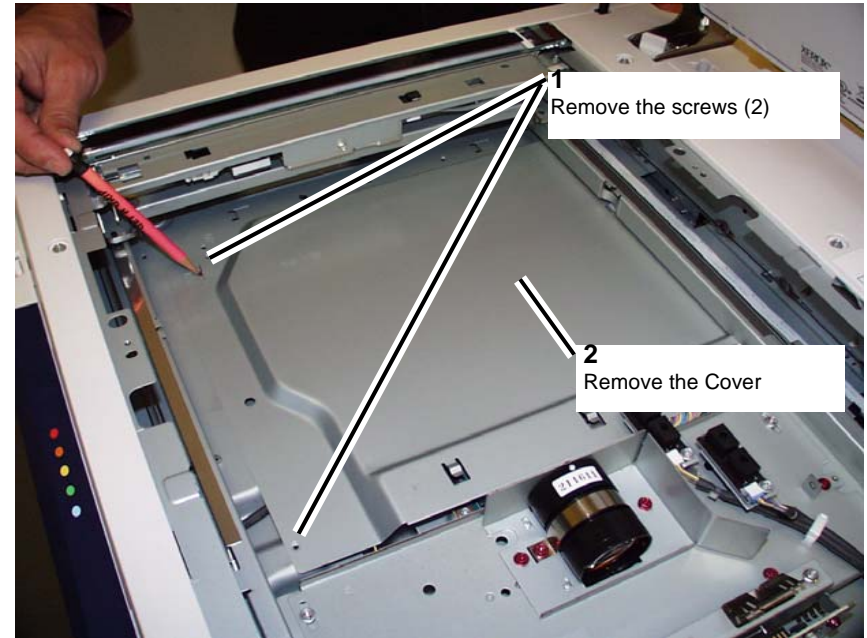

Figure 2 Removing the IPS Cover
4. Remove the IPS Cover. (Figure 2)